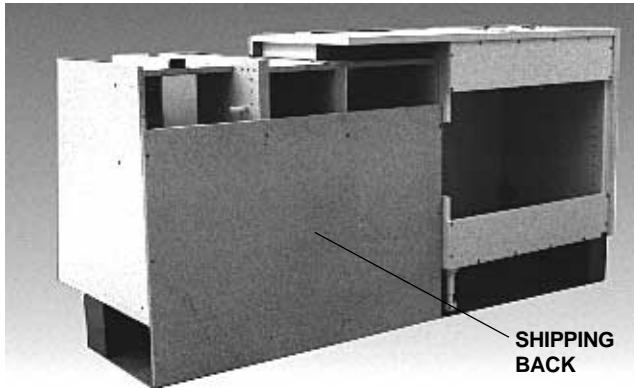

FIGURE 1
2. Remove the screws which secure the shipping back to the left-hand lower module (see Figure 1).